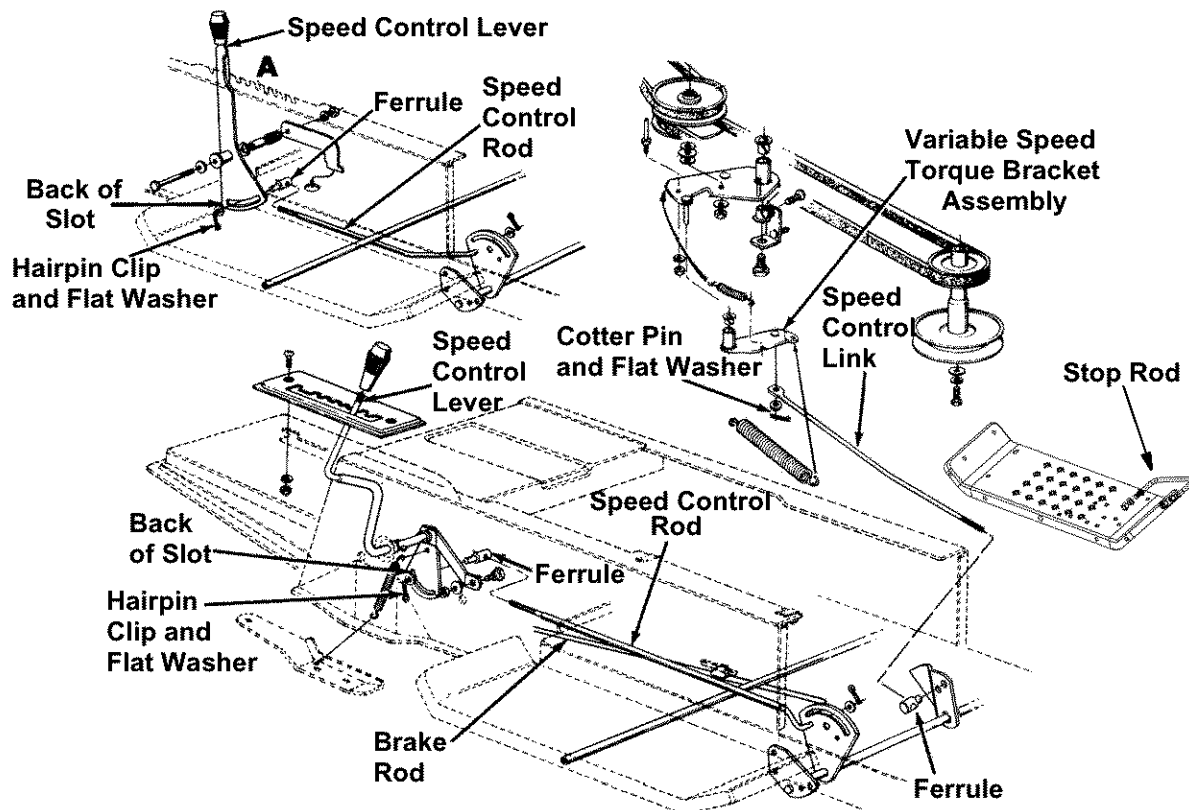

Figure 16
- Adjust the speed control lever by pushing the clutch-brake pedal forward until it hits the stop rod on the running board. See Figure 16. Have another person hold the pedal in this position as you make the following adjustment. Place the speed control lever in parking brake position. Remove the hairpin clip and flat washer, and adjust the ferrule on the rod so it is against the back end of the slot. See Figure 16. Then lengthen rod one more turn. Reassemble and secure with the flat washer and hairpin clip.